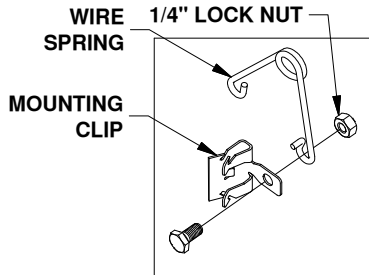
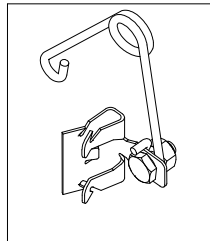

Figure B1:
Figure B2:
1. **Assemble kit.** Locate the 1/4" cap screw and nut, along with the wire torsion spring and mounting clip. Pass the 1/4" cap screw through the mounting clip and the wire spring, as shown in Figure B1. Thread the 1/4" lock nut onto the 1/4" cap screw. Tighten the lock nut just enough that the spring will stay in place but will still be able to rotate around the bolt if needed, see Figure B2.